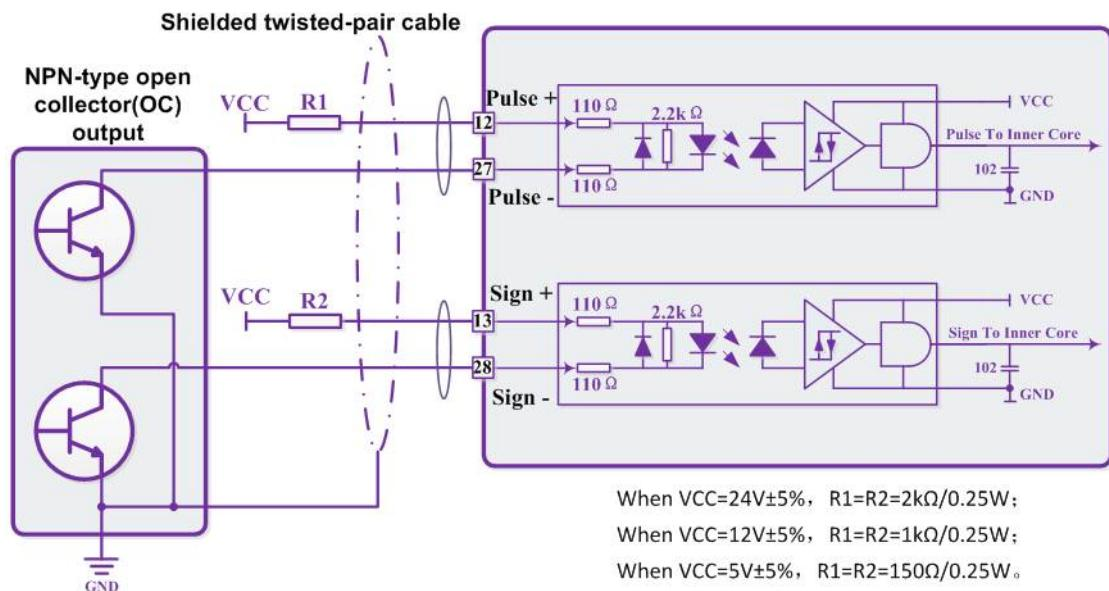

Figure 3-21 Diagram 1 of Wiring between an Upper Machine Employing NPN-type OC Output and the Driver
**【 Note 】** An HS-series servo driver's input interface level is standard TTL level, the current-limiting resistors in Figures 3-21 ~3-24 ( $R1=R2=R$ ) must have appropriate ohm values, or the pulse/direction ports will be damaged. When  $VCC=24V\pm5\%$ ,  $R=2k\Omega/0.25W$ ; when  $VCC=12V\pm5\%$ ,  $R=1k\Omega/0.25W$ ; when  $VCC=5V\pm5\%$ ,  $R=150\Omega/0.25W$ .